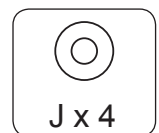

Fig. 4
- Insert a 3/8"x2-1/2" Hex Bolt (I) with a Washer (J) through the corner block and into the leg and fasten securely. Repeat for the other three legs. See figures 4 and 4a.
- Turn the table upright and insert the Drawer (KK).